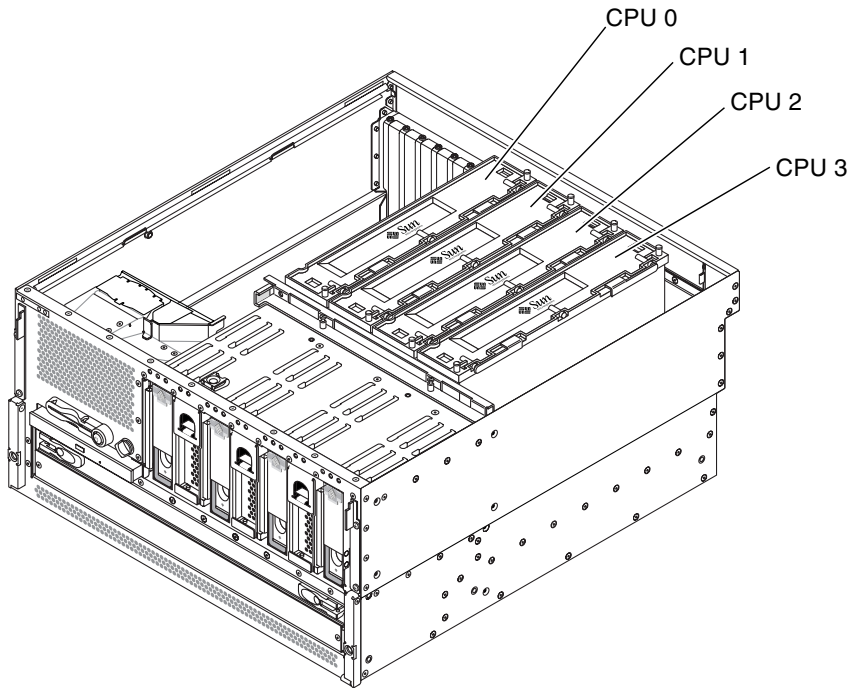

FIGURE 4-19 CPU Locations
4. Identify the CPU/memory module to be removed (FIGURE 4-19).